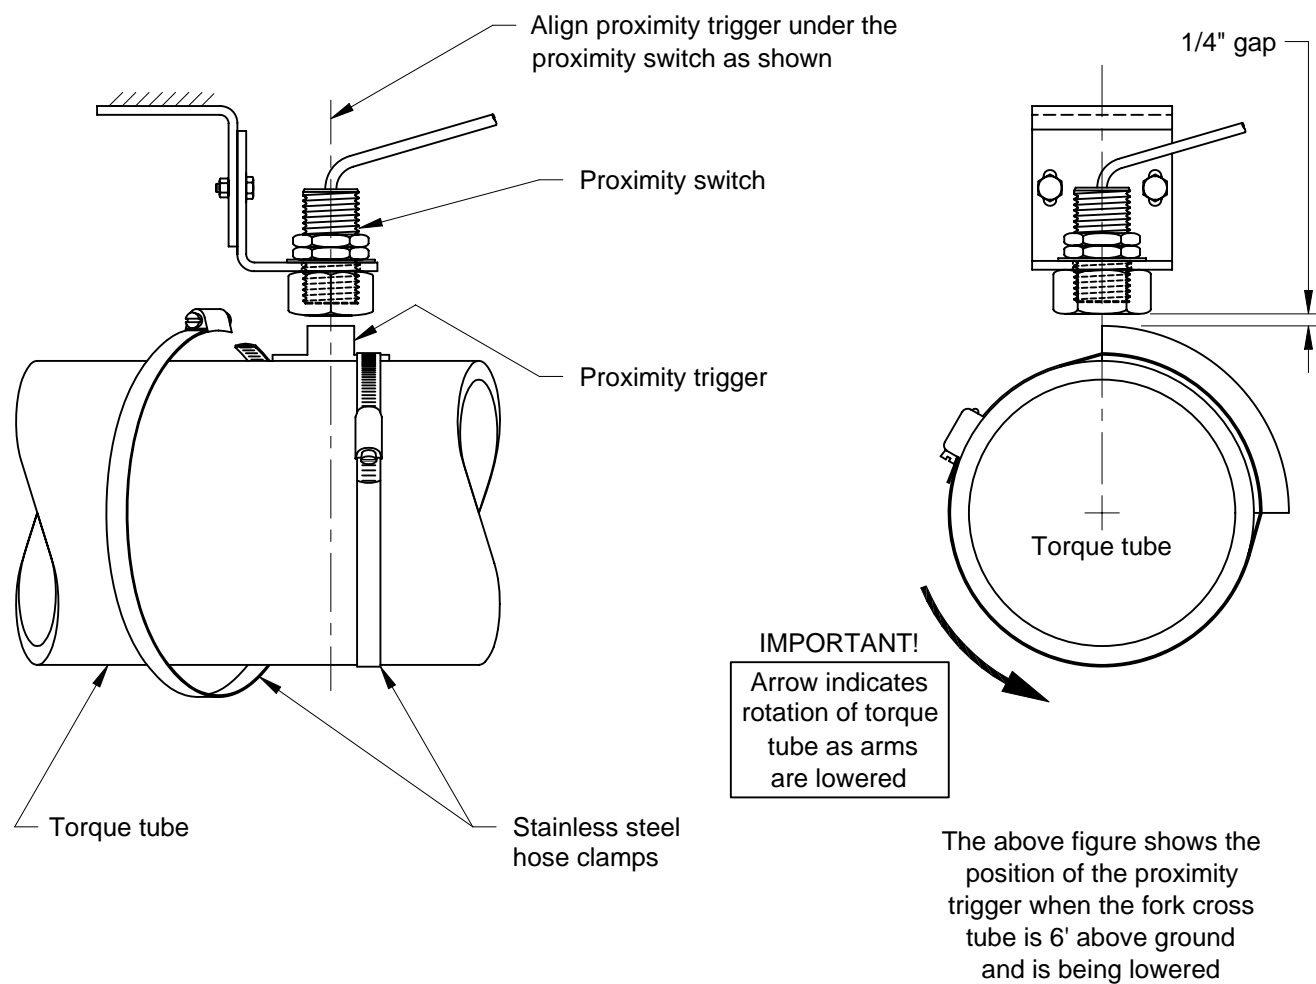

Figure 10-F
7. The proximity trigger will be mounted directly below the proximity switch on the torque tube. Clean off grease and debris from the torque tube in this area. Use the hose clamps to fasten the proximity trigger to the torque tube. Verify the cross tube is six feet off the ground before final alignment. Align the trigger with the proximity switch and set up the final installed distances as shown in Figure 10-F.